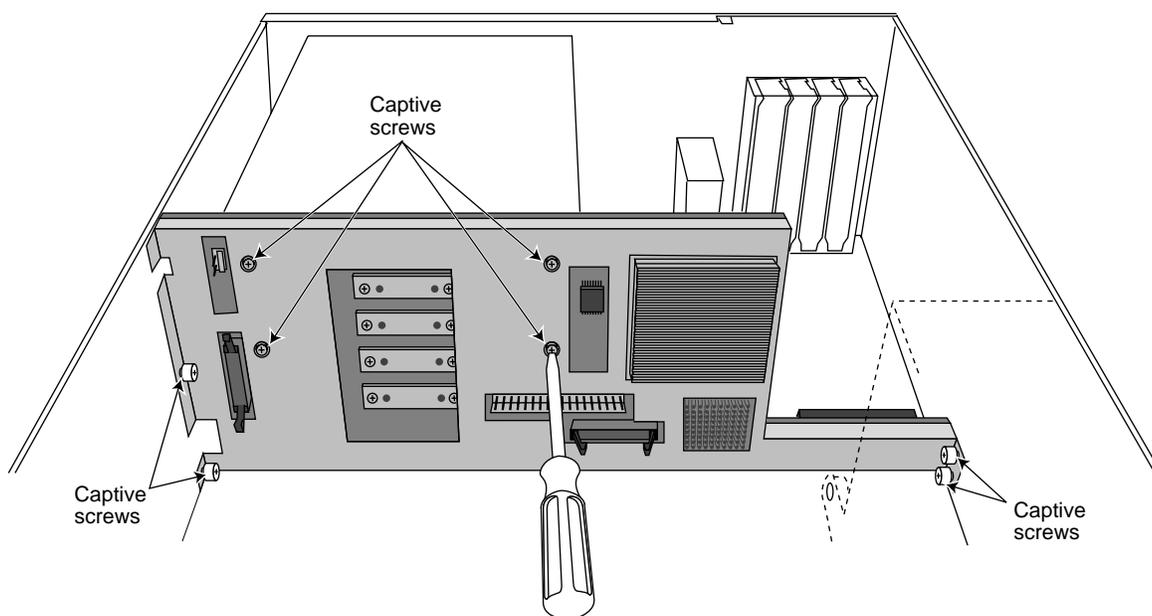

Figure 5-40 Midplane Captive Screws
2. Tighten the captive screws indicated in Figure 5-40.